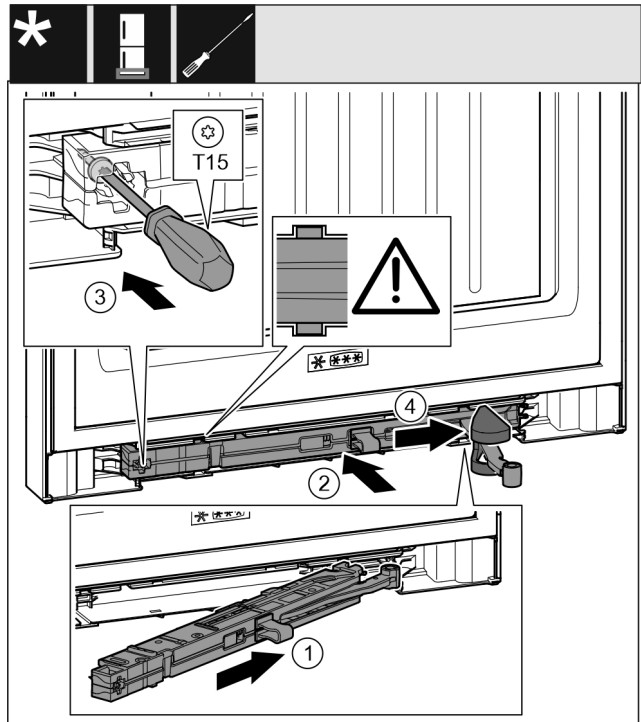

Fig. 48
- ▶ On the swap bearing block side, slide the closing damper unit Fig. 48 (1) into the recess at an angle up to the stop.
- ▶ Push the closing damper unit Fig. 48 (2) into the recess completely.
- ▶ Use a screwdriver to tighten the screw Fig. 48 (3).
- ▶ Push the cover Fig. 48 (4) over the joint.